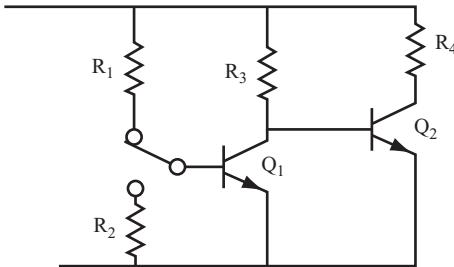

FIGURE 12.5
28. Using the circuit shown in Figure 12.5, find the values of R_1 , R_2 , and R_3 that can enable the switch to turn Q_2 ON and OFF if $V_s = 10$ volts, $\beta_1 = 50$, $\beta_2 = 20$, and $R_4 = 2.2 \text{ k}\Omega$. _____
29. Again, using the circuit shown in Figure 12.5, find the values of R_1 , R_2 , and R_3 that can enable the switch to turn Q_2 ON and OFF if $V_s = 28$ volts, $\beta_1 = 30$, $\beta_2 = 10$, and $R_4 = 220 \Omega$. _____